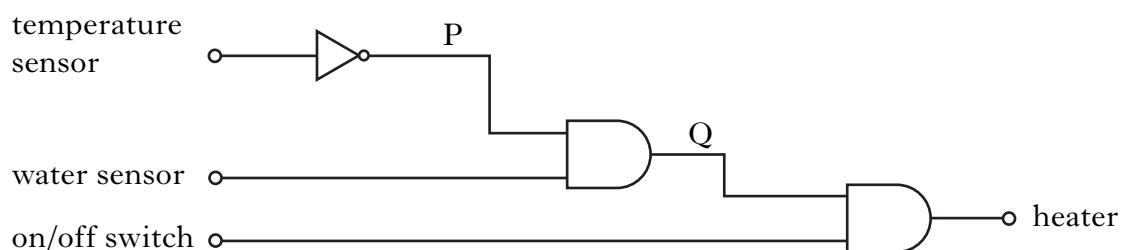

Figure Q11
The logic diagram shown in Figure Q11 is used to control the operation of the wallpaper stripper.
- (c) Complete the truth table for the logic diagram shown in Figure Q11.
- (d) Complete, with reference to the Data Booklet and Figure Q11, the wiring diagram below.